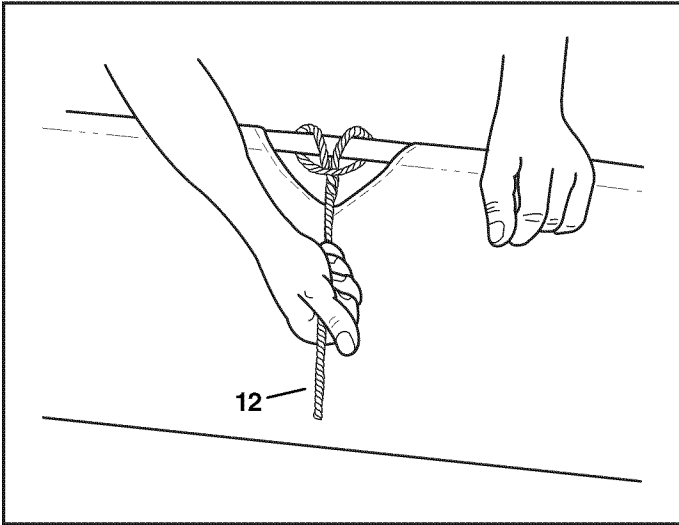

FIGURE 17
STEP 17: (SEE FIGURE 17)
- Attach the rope (12) to the center of the upper rear hopper tube.